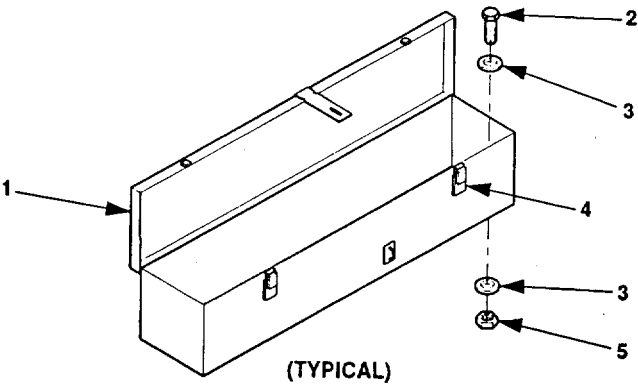

Figure 4-19. Replace Accessory Box.
- 1. Release clamping catches (4, figure 4-19) and open accessory box cover (1).